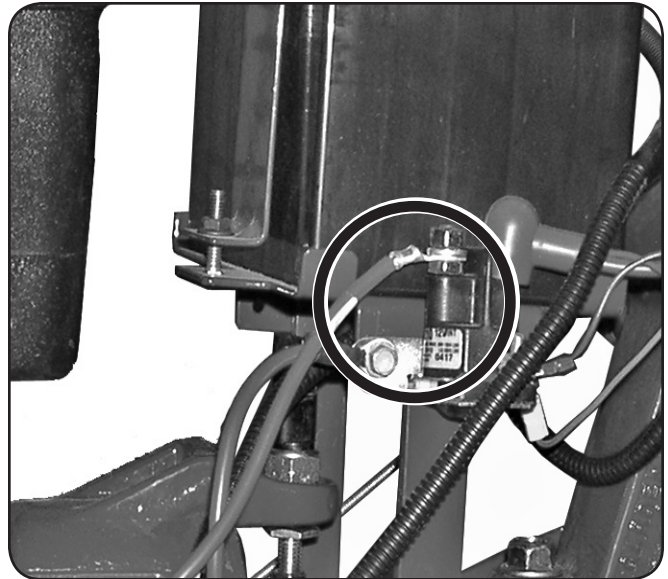

Figure 3-5
3. Connect the tiller's main harness connection to the neutral safety switch receptacle. See Fig. 3-5.